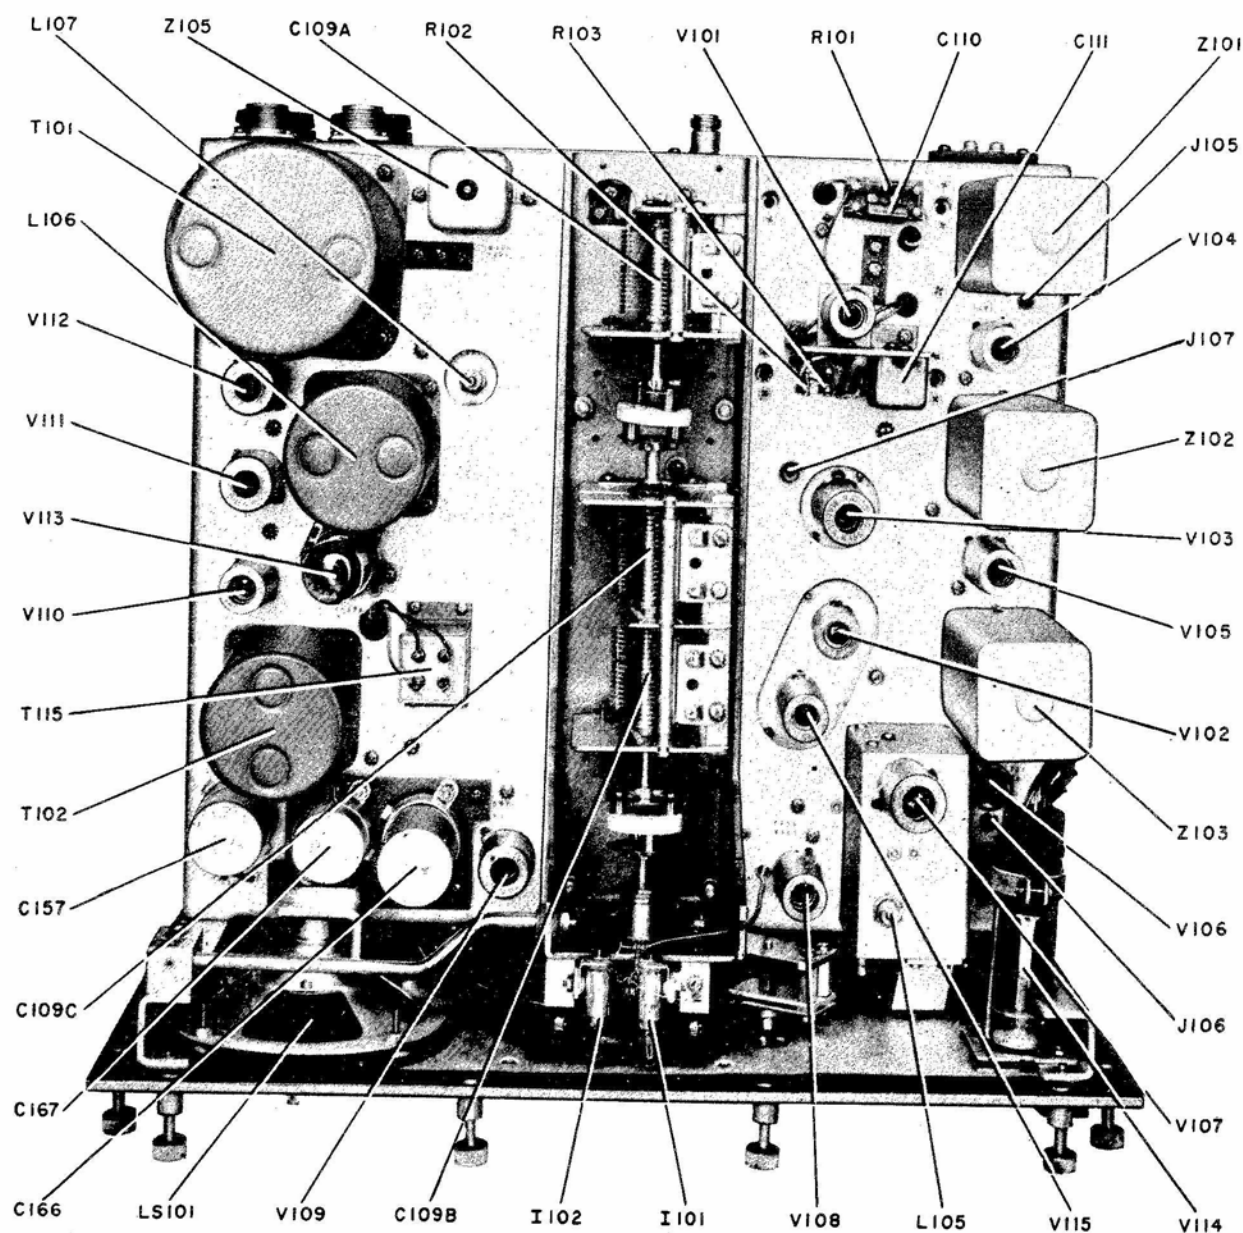

Figure 7-5. Component Locations, Top of Chassis
(3) WAVE TRAP ADJUSTMENT.—The two wave traps are adjusted by varying the inductance of coils L-101 and L-107. See Figure 7-5 for the location and identification of wave trap adjustments.